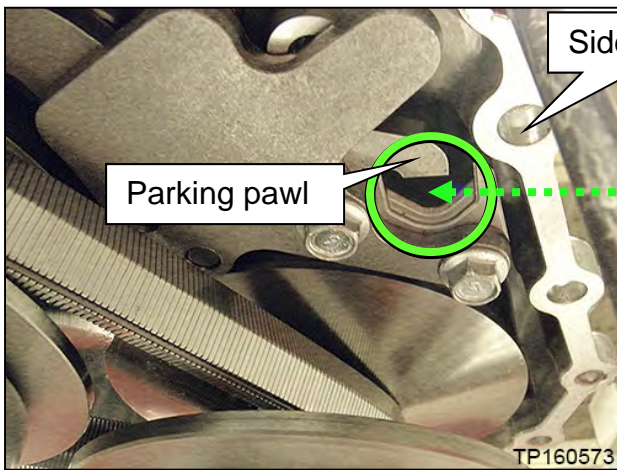
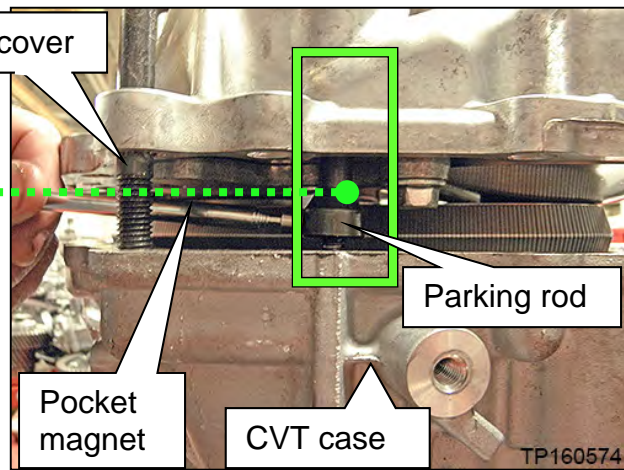

Figure 99
Figure 100
- b) Use a magnet to align the parking rod in the CVT case (□ in Figure 100) with the opening in the parking pawl (○ in Figure 99) in the side cover.